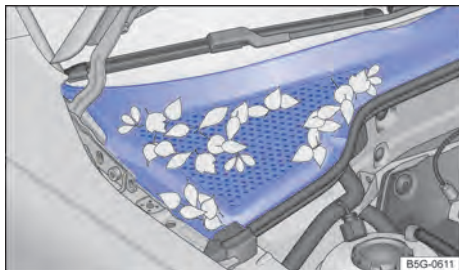

Fig. 204 Between the engine compartment and the windshield: plenum chamber (schematic representation).
- The plenum chamber is located in the engine compartment between the windscreen and the engine and has a perforated cover → Fig. 204. Air from outside is drawn in from the plenum chamber and is passed into the vehicle interior via the heating and fresh air or the air conditioning system.